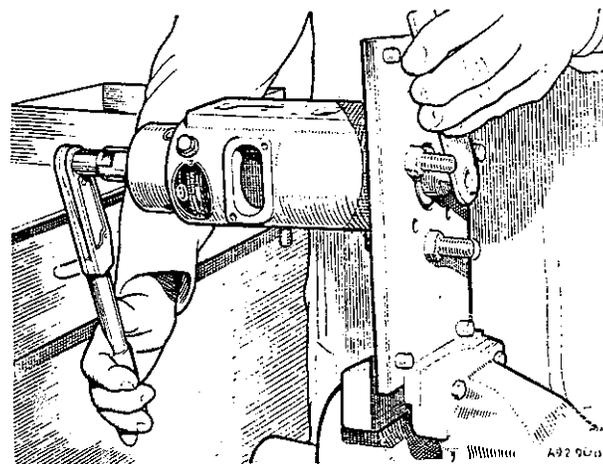

Fig. C.11
- (51) Hold the drive hub with tool **18G 659** and, using spanner **18G 634**, tighten the transfer pump rotor to the torque figure given in '**GENERAL DATA**' (see Fig. C.11). Fit the transfer pump liner and insert the transfer pump vanes into their slots.
- (52) Ensure that the locating peg is in position '**C**' in the pump end plate and seat the piston retaining spring in the bottom of the regulating valve bore.
- (53) Fit a new seal washer to the small-diameter end of the regulating valve sleeve and fit the piston into the sleeve. Insert the regulating spring and peg into the large-diameter end of the sleeve and place the transfer pressure adjuster on the top of the sleeve. Fit the sleeve retaining spring onto the pressure adjuster and pass the filter, small end leading, over the spring and onto the shoulder of the valve sleeve. Insert this assembly, valve sleeve first, into the **bore** of the end plate and fit the fuel inlet connection and washer.
- (54) Place a new sealing ring in its **recess** in the hydraulic head face and fit the end plate to the head, engaging the locating peg with the slot in the transfer pump liner. Tighten the end plate screws and studs to the torque figure given in '**GENERAL DATA**', then tighten the fuel inlet connection to the torque figure given in '**GENERAL DATA**'.
- (55) Using spanner **18G 646**, tighten the cam advance screw to the torque figure given in '**GENERAL DATA**' and check the cam ring for freedom of rotation.
- (56) Fit new '**O**' rings to the advance unit end plug and spring cap, using protection cap **18G 640** to pass the rings over the threads. Screw the end plug finger-tight into the end of the advance unit where the fuel duct enters the bore. Fit the piston into the advance unit, with its counterbored end at the open end of the housing, and place the two springs in position in the piston. Place the **1.0** mm. shim washer inside the spring cap and screw the cap finger-tight into the housing. If the spring cap or end plug are renewed, ensure that the new part has the same identification letter as the component it replaces. Unmarked components should be used to replace unmarked components.
- (57) Fit a new '**O**' ring under the head of the hydraulic head locating bolt, using protection cap **18G 639**. Position the non-return valve ball in the side of the head locating bolt and fit the bolt to the advance unit. Using assembly cap **18G 647**, fit a new inner '**O**' ring to the shank of the locating bolt, and place the plain washer on top of the '**O**' ring.
- (58) Place a new advance unit joint washer on the pump housing with the straight side of the '**D-shaped** hole at the drive end of the pump; to ensure sealing, this joint washer should be fitted dry. Position the advance unit on the pump, fit a new aluminium and tubber washer to the stud, and fit the cap nut.